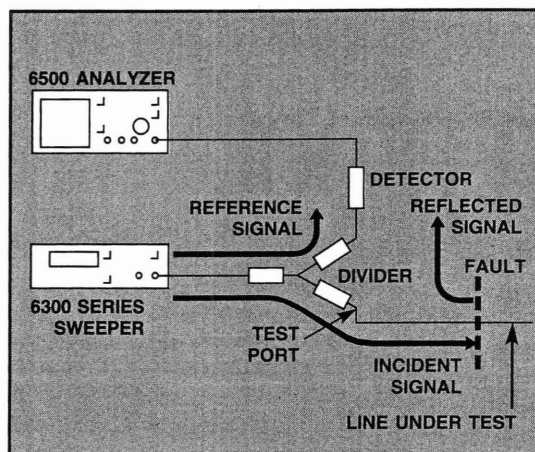

Figure 11. A scalar FDR setup block diagram for measuring distance to fault.
► **Fault location**—Although a TDR locates transmission line faults, it cannot measure the fault over a frequency spectrum, only time. (See Figure 11.)